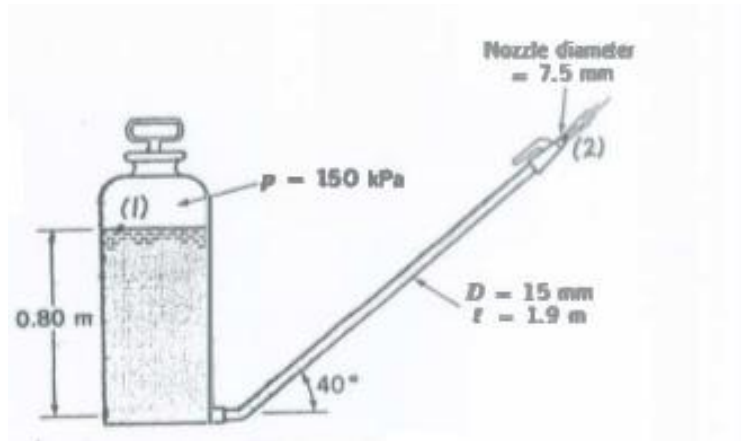

Figure 3.1
3. Water flows from a nozzle to the spray tank shown in figure 3.1 Determine flow rate if the loss coefficient for the nozzle, (based on the upstream,) is 0.75 and the friction factor for the rough hose is 0.11.